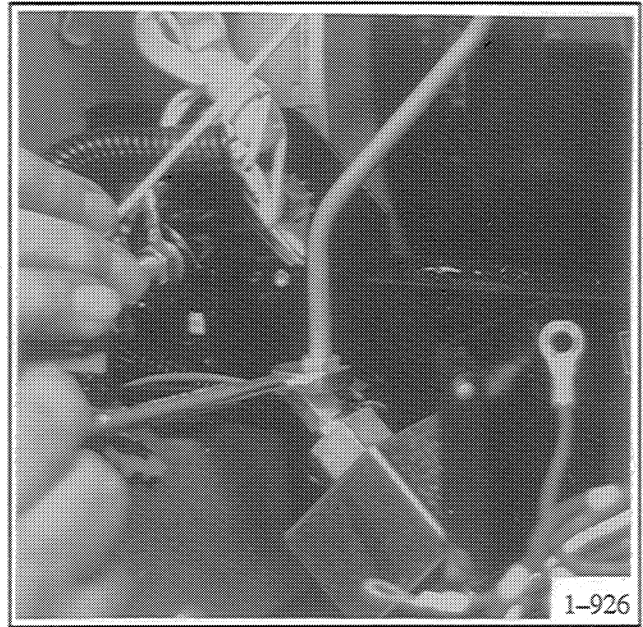

Figure 8-20. Disconnecting Fuel Line
24. Use a 7/16 in. wrench (use a flare nut wrench if available) to loosen fuel line fitting at fuel pump. See Figure 8-20. Lift and bend fuel line slightly to clear fuel pump adapter.